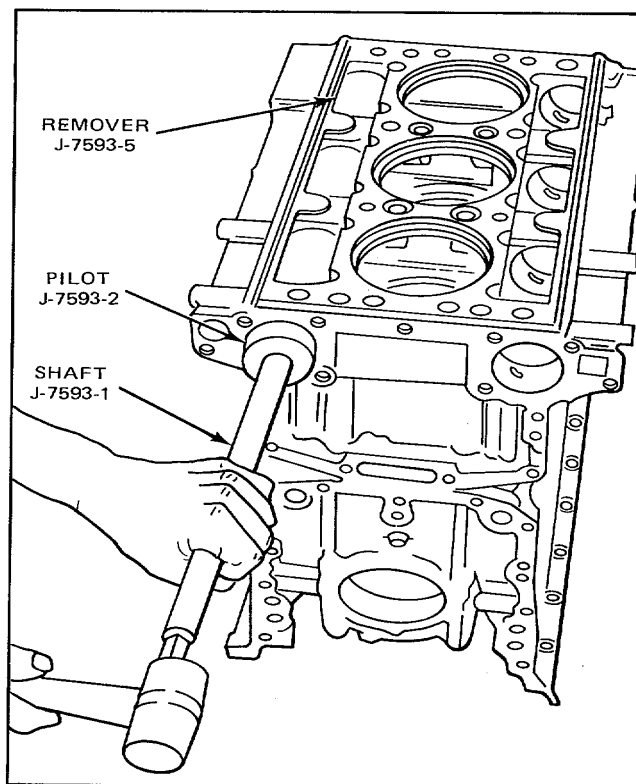
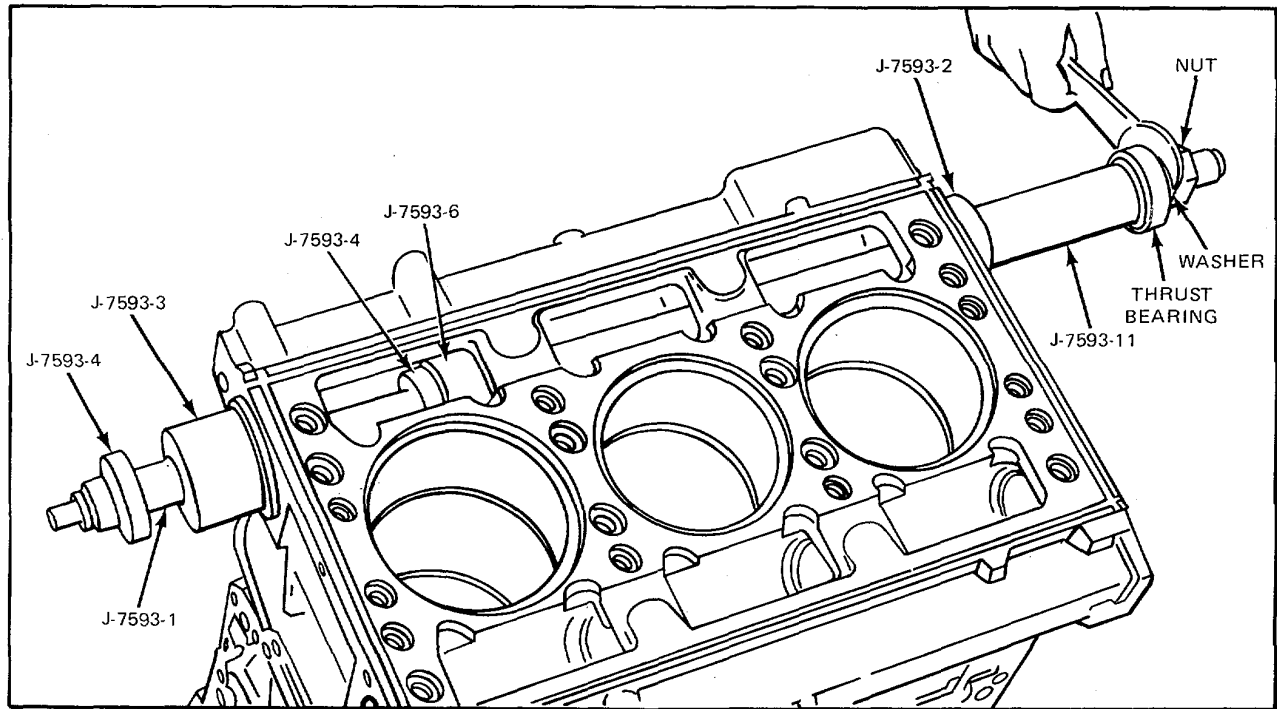
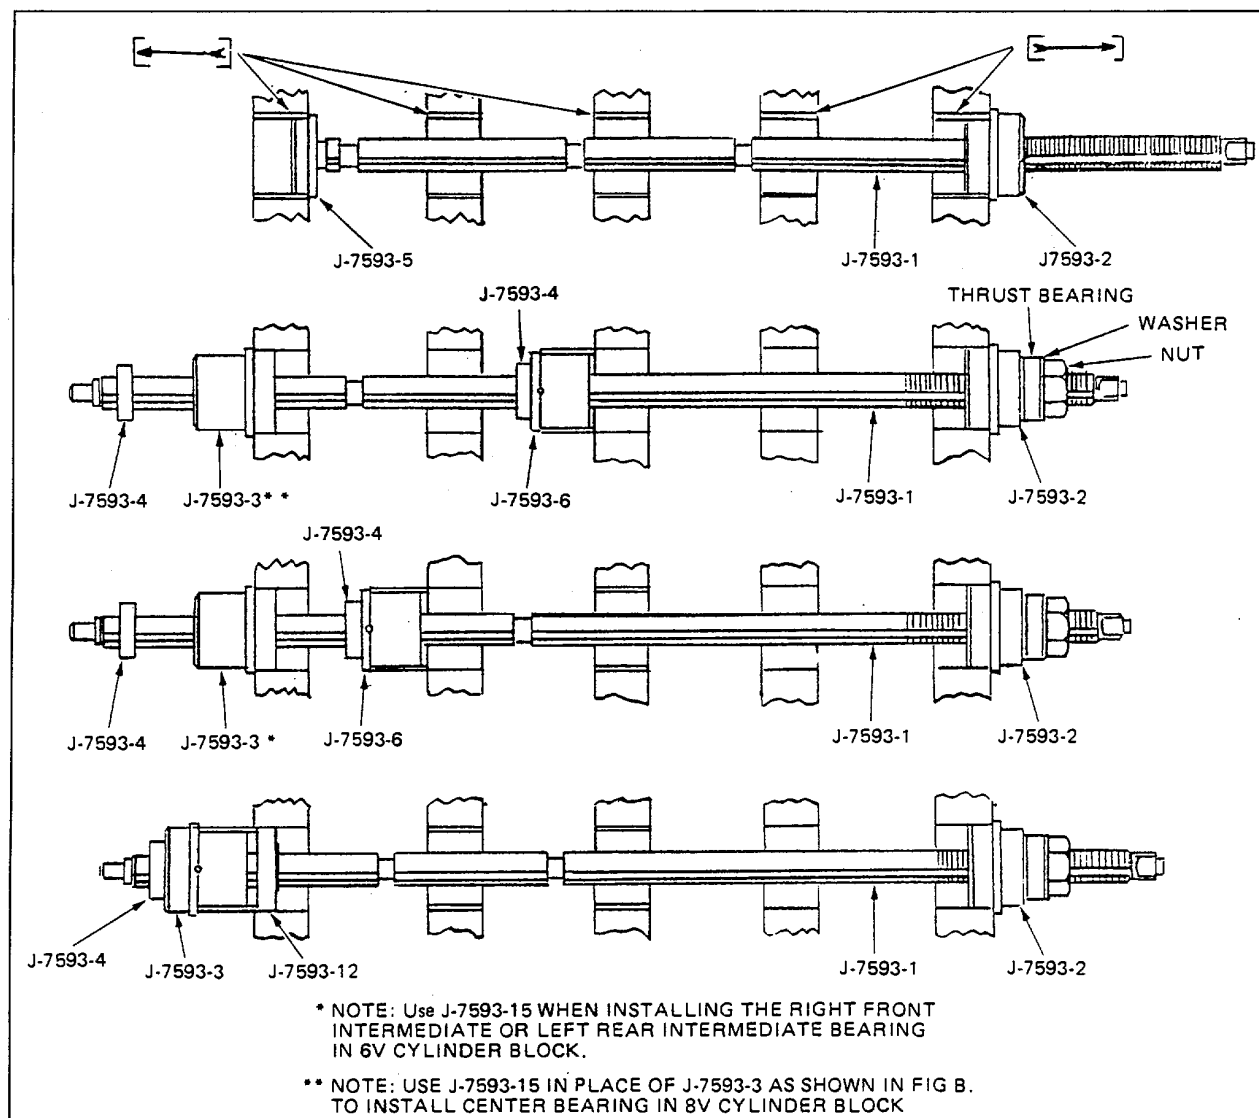

Figure 5. Removing End Bearing
Figure 6. Installing Intermediate Camshaft Bearing
Figure 9. Removing and Replacing Camshaft or Balance Shaft Bearings
1. Remove all accessories and assemblies with their attaching parts as is necessary so that tool set J 7593-03 may be used as shown in Fig. 5 and in A of Fig. 9.
1. Insert pilot J 7593-2 in the bore of the block as shown in Fig. 6. Use the small end of the pilot if an end bearing has been installed. Refer to B and C of Fig. 9.
4. Slide installer J 7593-6 on the shaft until the locating pin registers with the notch in the bearing. Then slide installer J 7593-3 or J 7593-15 on the shaft with the large diameter inserted into the end of the block bore. Refer to C and note of Fig. 9.
1. Insert pilot J 7593-2 in the bore of the block as shown in D of Fig. 9. Use the small diameter of the pilot if a bearing has been installed.
5. Next, place a spacer (if required), thrust washer, plain washer, and hex nut over the threaded end of the shaft as shown in D of Fig. 9 and, using a suitable wrench on the hex nut, draw the bearing into place until the shoulder on the installer prevents the shaft from further movement. The bearing is now installed in its correct position.